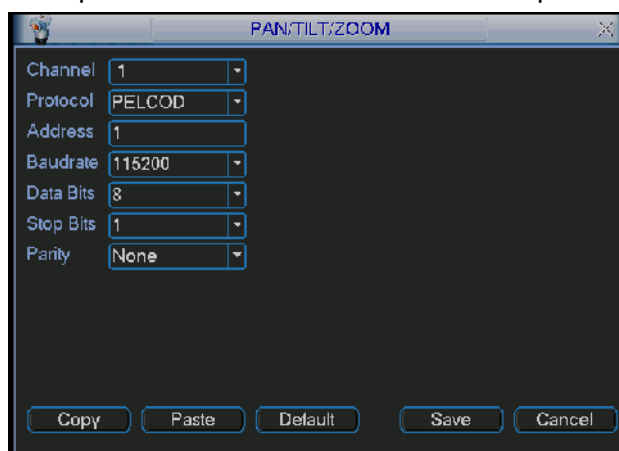
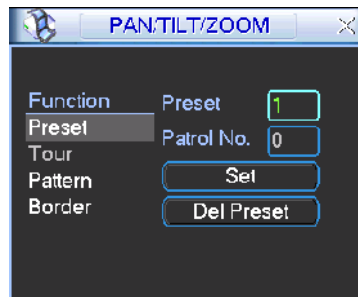
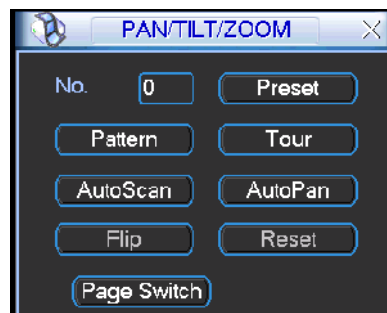

Figure 4-30
Figure 4-35
Figure 4-36
In the main menu, click setting, and then click Pan/Tilt Control button. The interface is shown as in Figure 4-30. Here you can set the following items:
In Figure 4-32, please click the “set” button. The interface is shown as below. See Figure 4-35. Here you can set the following items:
In Figure 4-32, click page switch button, the interface is shown as in Figure 4-36. Here you can activate the following functions:
- ⌘ The following setups are usually operated in the Figure 4-32, Figure 4-35 and Figure 4-36 .
In Figure 4-35, click preset button and input preset number. The interface is shown as in Figure 4-37.
In Figure 4-36, please input preset number in the No. blank, and click preset button.
In Figure 4-35, click patrol button. The interface is shown as in Figure 4-38. Input preset number and add this preset to a patrol (tour). For each patrol (tour), you can input max 80 presets.
In Figure 4-35, input patrol (tour) number in the No. blank and click patrol button
In Figure 4-35, click pattern button and then click "begin" button. The interface is shown as in Figure 4-39. Then you can go to Figure 4-32 to modify zoom, focus, and iris.
In Figure 4-36, input mode value in the No. blank, and click pattern button.
In Figure 4-35, click border button. The interface is shown as in Figure 4-30.
In Figure 4-36, click "Auto Scan" button, the system begins auto scan. Correspondingly, the auto scan button becomes Stop button. Click stop button to terminate scan operation.
In Figure 4-36, click page switch button, you can see an interface is shown as below. See Figure 4-41. Here you can set auxiliary function. The aux value has relation ship with the Aux button of the decoder.